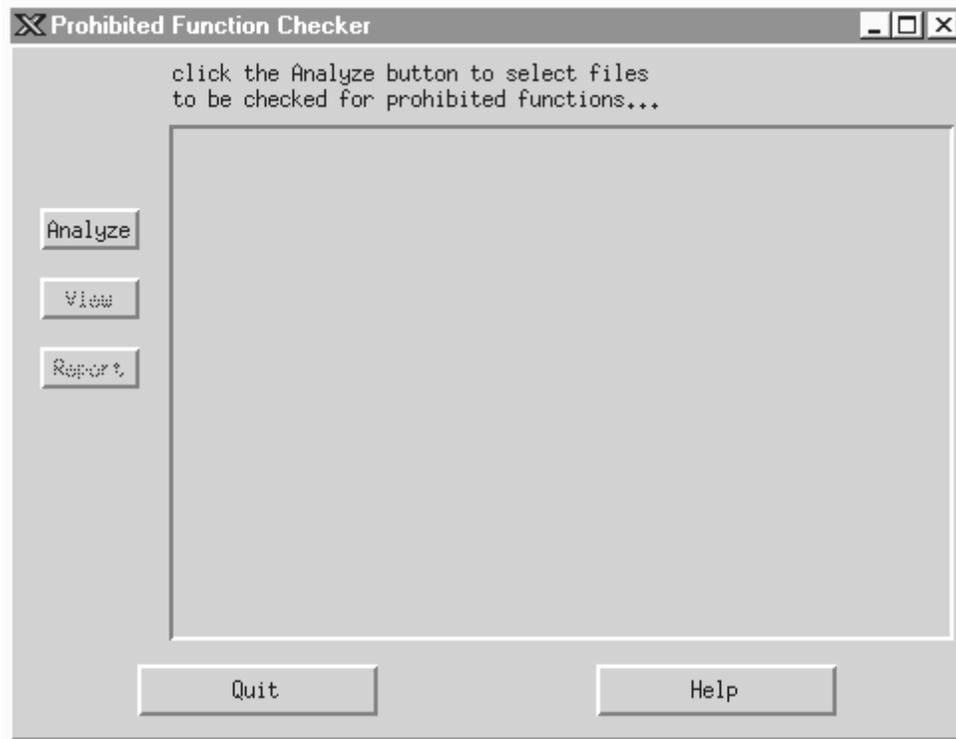

Figure 4.5.1-10. Prohibited Function Checker Pop-up
1. From the *SSI&T Manager Main Screen*, click on the **T**ools menu, then choose **S**tandards Checkers, and then choose **P**rohibited Function Checker (Figure 4.5.1-8).